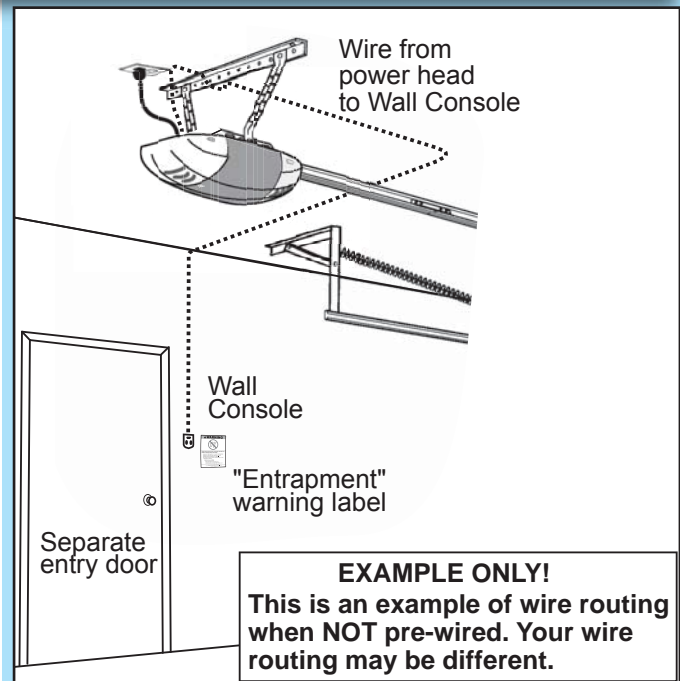

FIG. 3-1 Wall Console wire routing
- Locate Wall Console pre-wired wire ends (**Fig. 3-1**). (They should be located within the guidelines mentioned above.)
- Pick a convenient location for mounting Wall Console using the guidelines mentioned above (**Fig. 3-1**).
- Run wire from power head to Wall Console (**Fig. 3-1**).